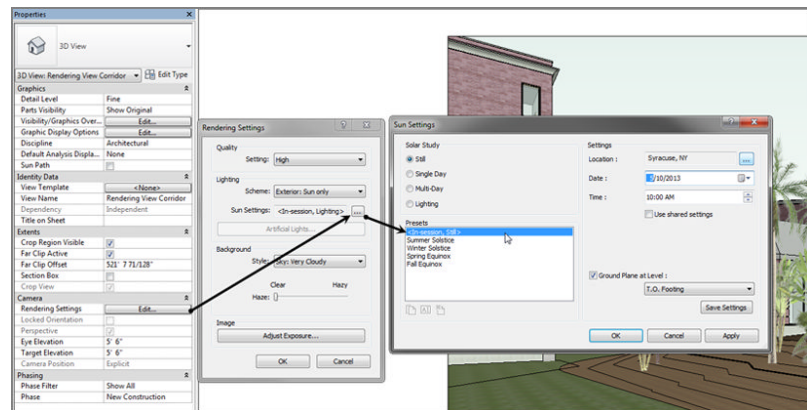

FIGURE 19.3: The Sun Settings dialog box
16. Click the [...] button to the right of the Sun Settings category, as shown in Figure 19.3.
17. Make sure the Multi-Day choice is selected for Solar Study, and choose appropriate settings and your geographic location for the settings Date, Time, and Location. (I chose Syracuse, NY, and my birthday [05/10 is the default].) You can change these settings if you would like (see Figure 19.3).